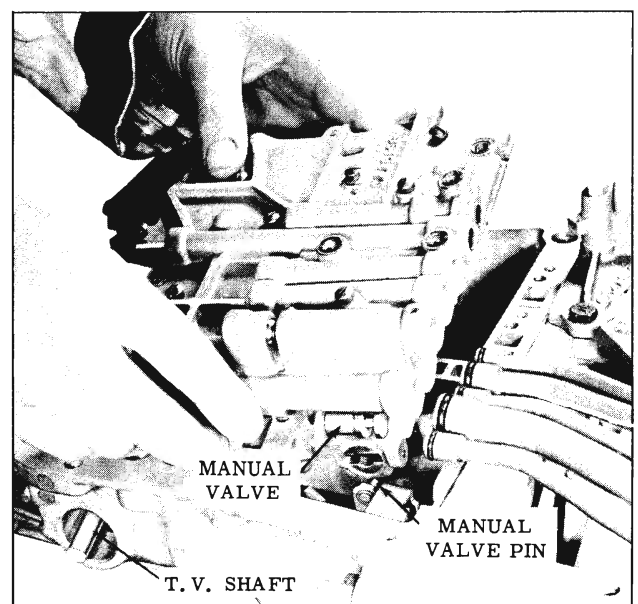

Fig. 3-125 Installing Valve Body
21. Apply petrolatum to valve body pipe ports and install valve body assembly by guiding T.V. shaft through opening in rear bearing retainer and positioning manual valve on pick up pin. Position pipe assembly to index with pipe ports in valve body and move forward to seat pipe seals. (Fig. 3-125) Install 5 valve body attaching bolts. Torque 6 to 8 ft. lbs.